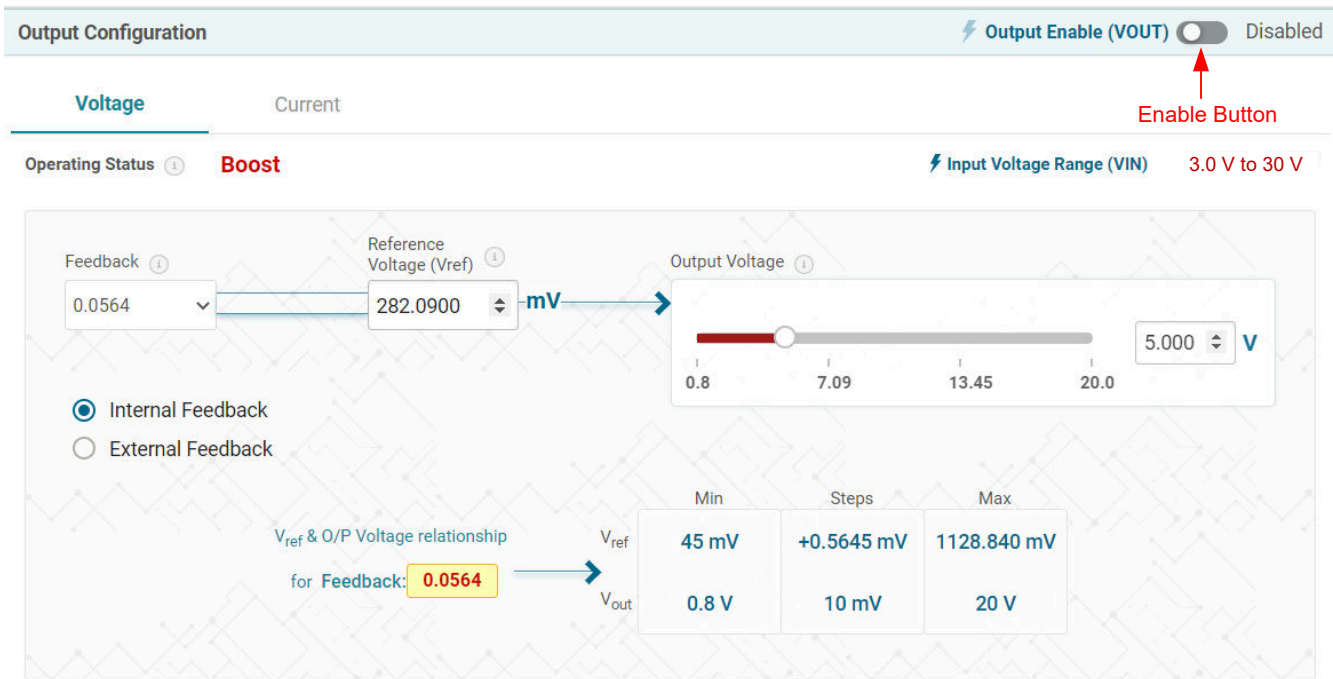

Figure 4-5. ENABLE Button
5. Click the Enable button (Figure 4-5). The default output voltage is 5 V.